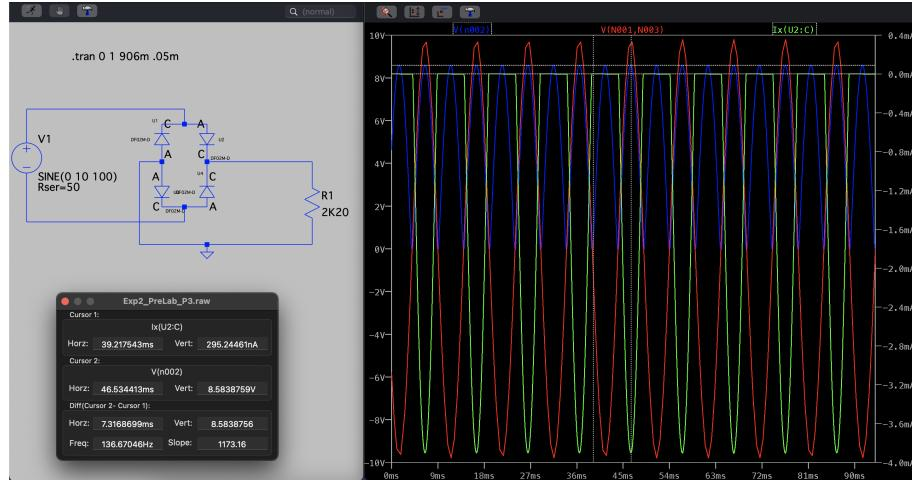

Figure 6:  $U_L$ ,  $V_{in}$ , and  $I_D$
1. Figure 6 shows the circuit without  $C_1$  built in LTSpice and the plot of  $U_L$ ,  $V_{in}$ , and  $I_D$ .
2. From Figure 6, peak voltage at  $R_L$  and the peak current  $I_D$  can be obtained.